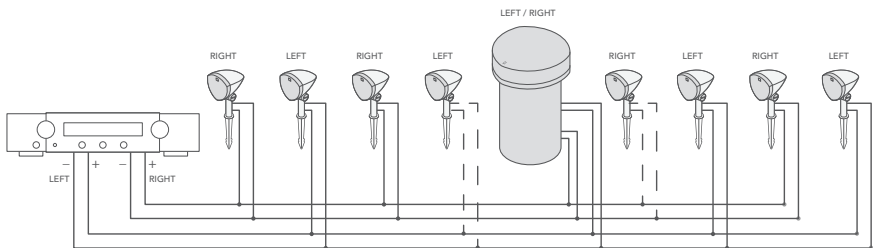

Figure 4
4. Run the speaker wire through the trench as described in the wiring instructions in section 6 "Installing the Satellite Speakers" on the next page and section 7 "Installing the Subwoofer." We recommend leaving 14-16" of excess wire per speaker so that the wire doesn't kink or pull taut when covering the wire with dirt in the trench. Figure 4 shows the wiring of a complete system using a stereo amplifier.